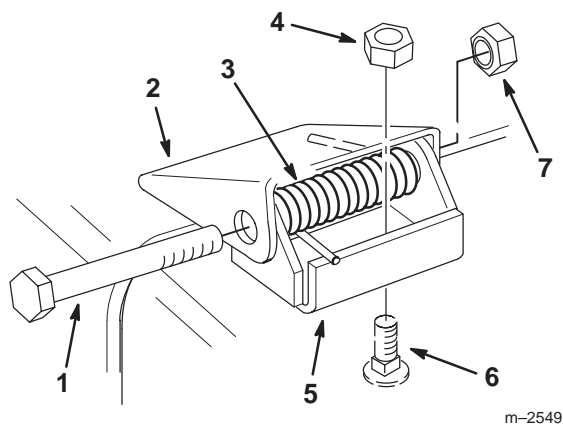

Figure 44
1. Remove the locknuts, bolts and springs holding the deflector mounts to the pivot brackets (Fig. 44).
2. If the pivot brackets need to be replaced, remove the carriage bolts and cone locknuts holding the old brackets to the top of the discharge opening, then install the replacement pivot brackets. Make sure the carriage bolt heads are on the inside of the cutting unit (Fig. 44).
3. Install the deflector mounts onto the pivot brackets with the bolts, springs and locknuts. Make sure the straight ends of the springs are positioned between the deflector mounts and the grass deflector (Fig. 44).
4. Tighten the locknuts until they contact the pivot brackets (Fig. 44).